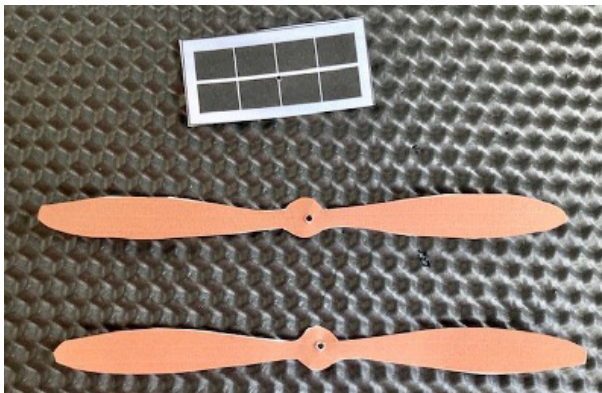

Figure 3. Cut out one set of parts for your helicopter.
4. Print out the final page of this document on cardstock or other stiff paper. As shown in Figure 3, you will need to cut out one set of parts (a solar panel and two rotor blades) for each helicopter you are making.